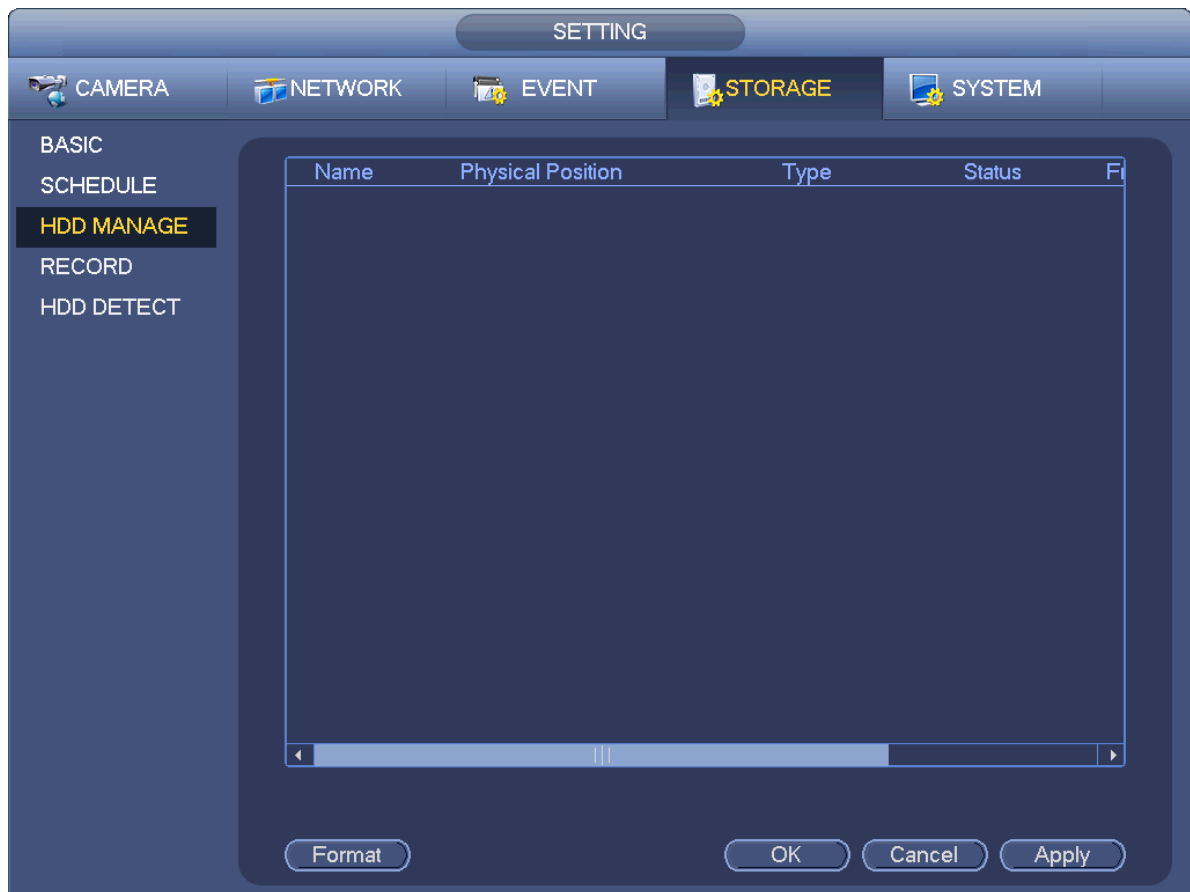

Figure 4-102
Step 1 From Mani-menu->Setting->Storage->HDD Manager, you can go to HDD management interface. See Figure 4-102.